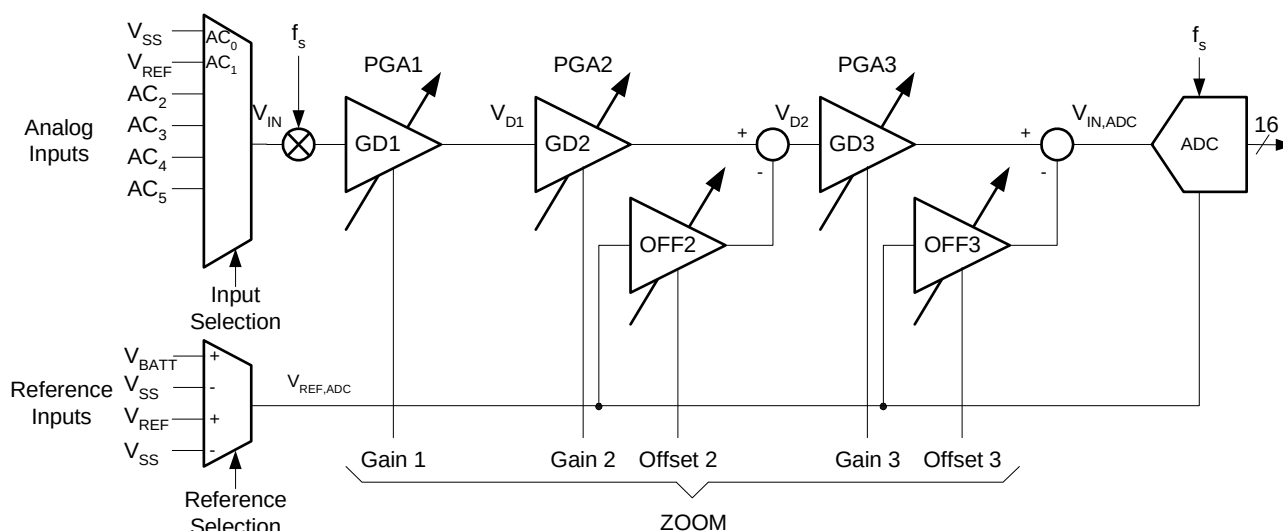

**Figure 8 - ZADC General Functional Block Diagram**
Figure 8 shows the general block diagram of the acquisition chain (AC). A control block (not shown in Figure 8) manages all communications with the 2-WIRE peripheral. The clocking is derived from the internal 4 MHz Oscillator.
As seen in Figure 8, the zooming function is implemented with three programmable gain amplifiers (PGA). These are: